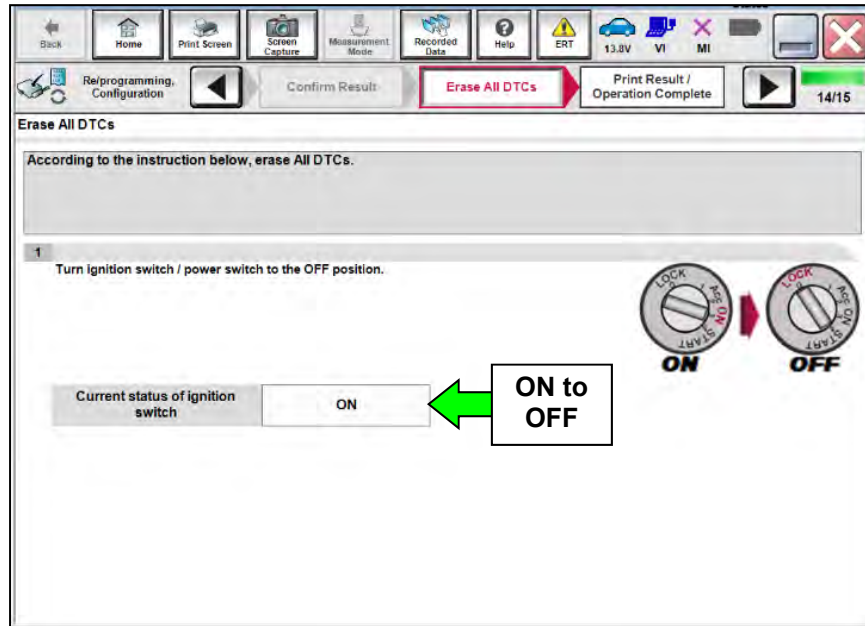

Figure 23
- The screen in Figure 23 will read **OFF** after pressing the power switch once.